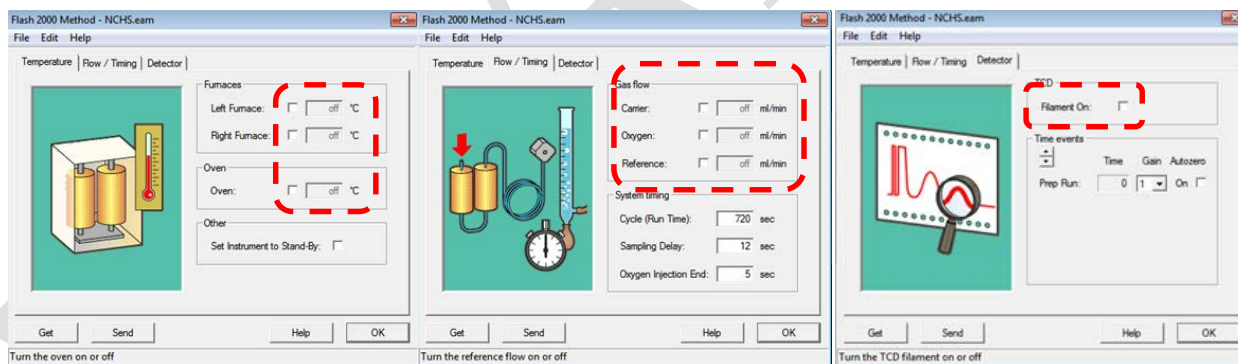

Fig.17 Shut-off detector temperatures and gas
3.4.1 Click , tick the box furnace, oven, flow and filament to enable the off condition. Click **send** to send the command to the instrument.(fig.17)